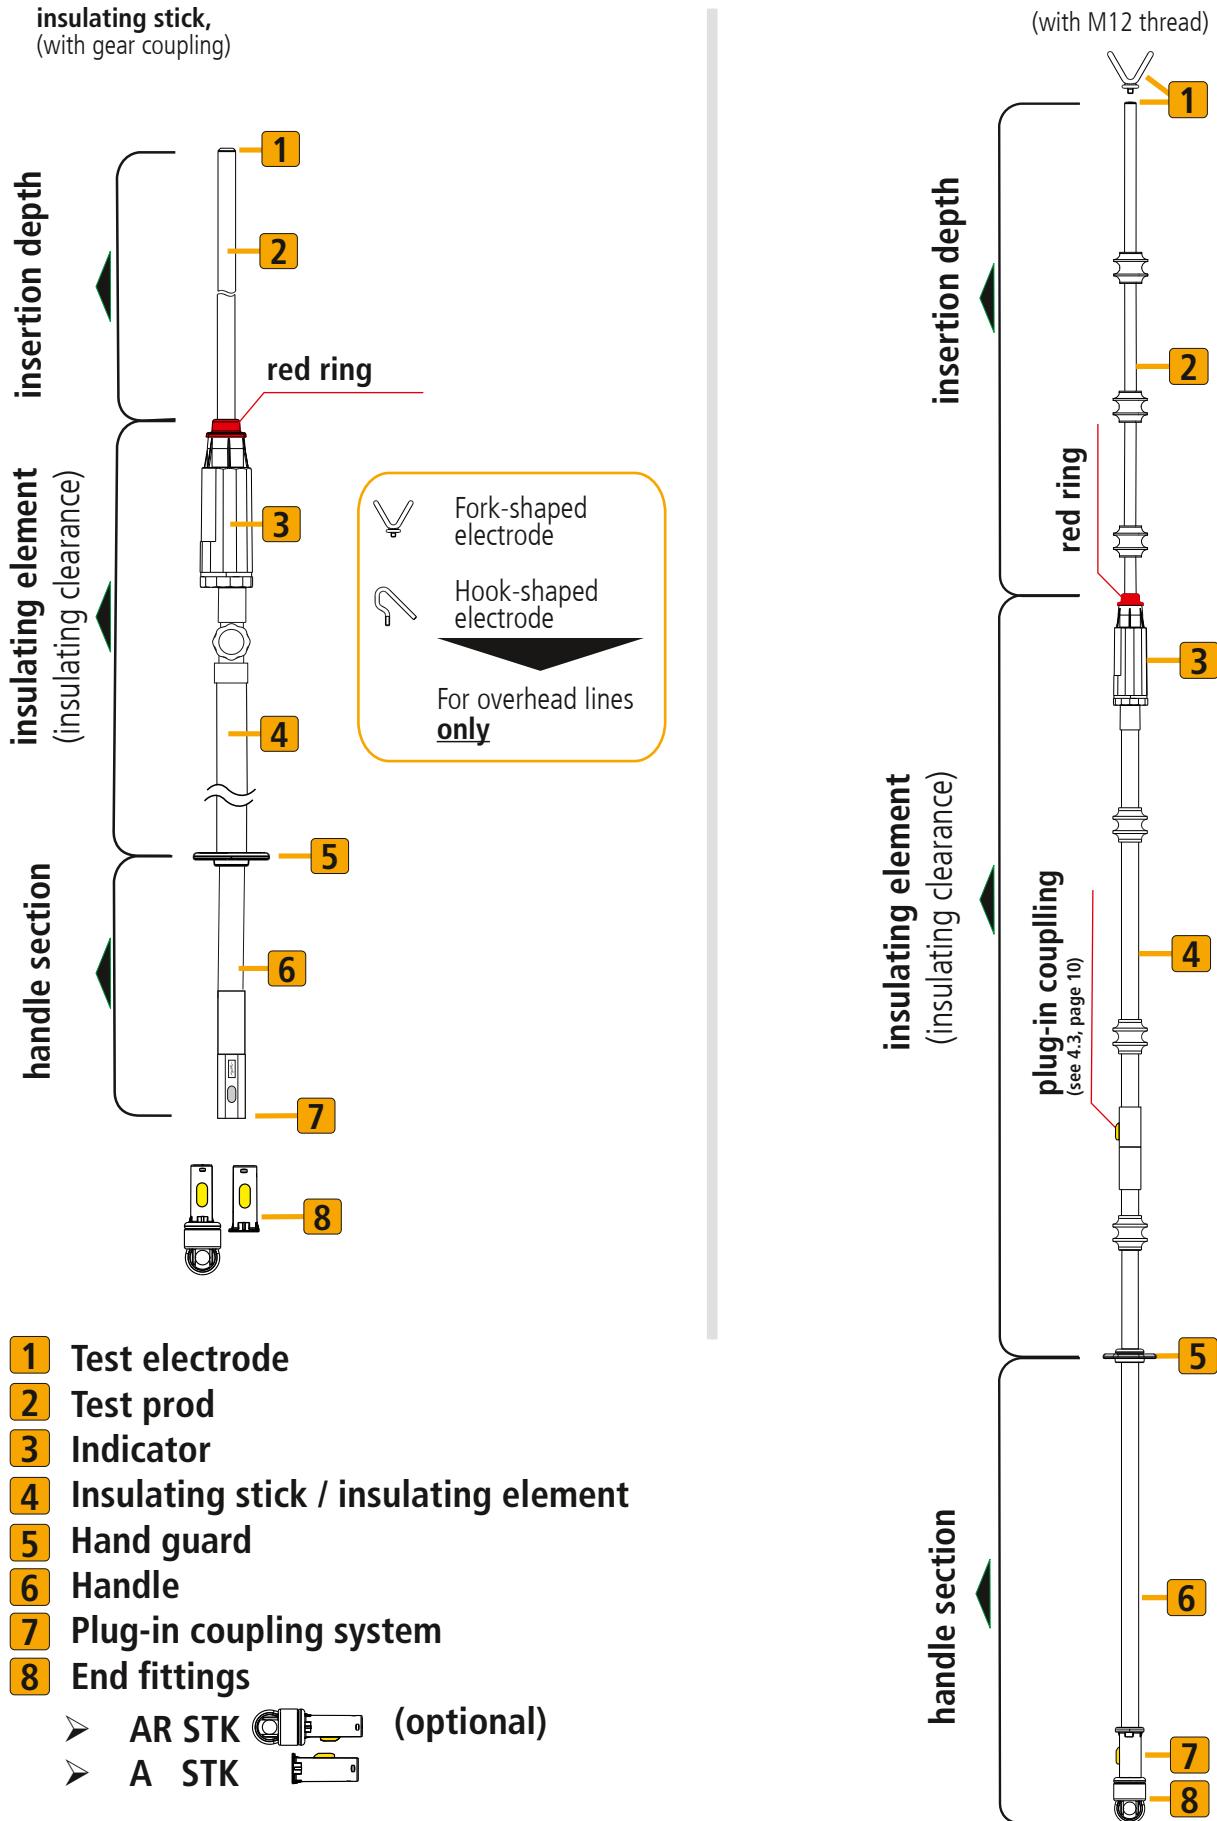

Fig. 2
PHE3... voltage detectors consist of several elements (see chapter 4 and Figs. 2 and 3).
PHE3... voltage detectors consist of three or more elements, namely a detachable insulating stick, a detachable test prod and, if required, one or several extension handles (see also Fig. 2, page 5).
(see also Fig. 2, page 5).
5. Notes on safe operation (see also Fig. 2, page 5 and Fig. 3, page 6).